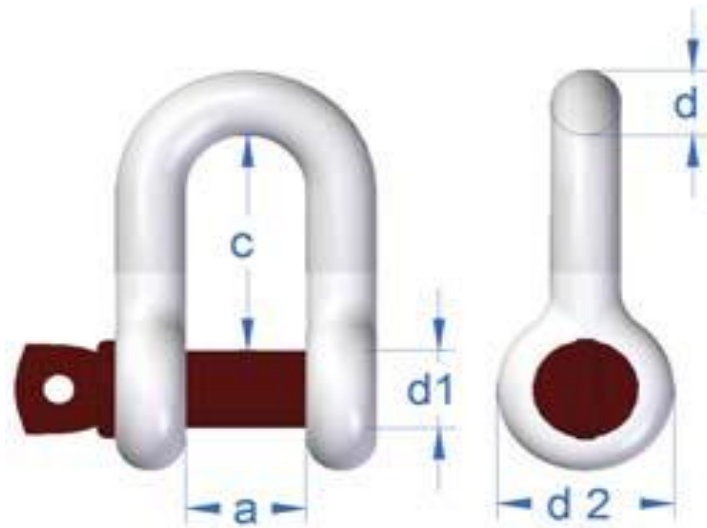

Figure -12
- Shackles should be used when lifting the machine. Appropriate shackles are shown in ( Table-6).(See Figure-12).